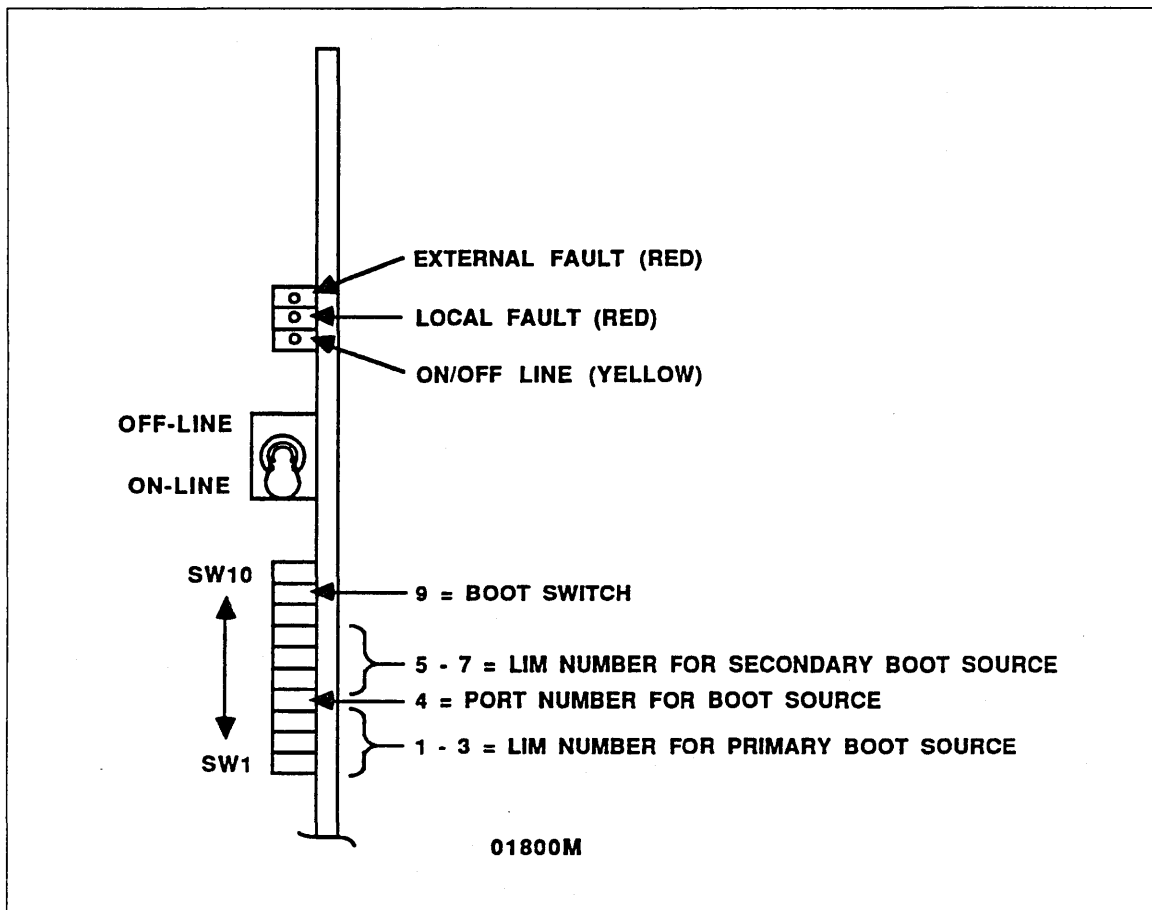

Figure 1-46. CIM Switches
2. The trunk speed must be provided from an external clock source. The LIM and PORT number for the boot source are determined from the front CIM dip switches. These switches also determine the LIM number to use for a boot attempt if the primary source fails to establish a link. The remaining switches are defined as follows and are shown in figure 1-46:
4. Set the ONLINE/OFFLINE toggle switch to ONLINE by pulling out and pressing down on the switch, (as shown in figure 1-46).